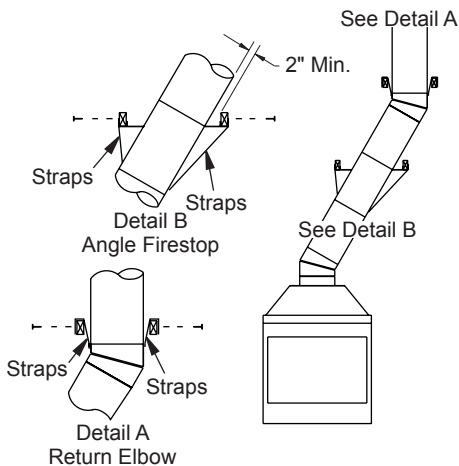

Figure 8 - Ceiling Support Pipe 12S-12DM
- Chimney weight above offset rests on return elbow. Straps must be securely nailed to rafters or joists (see Figure 8, details A and B).